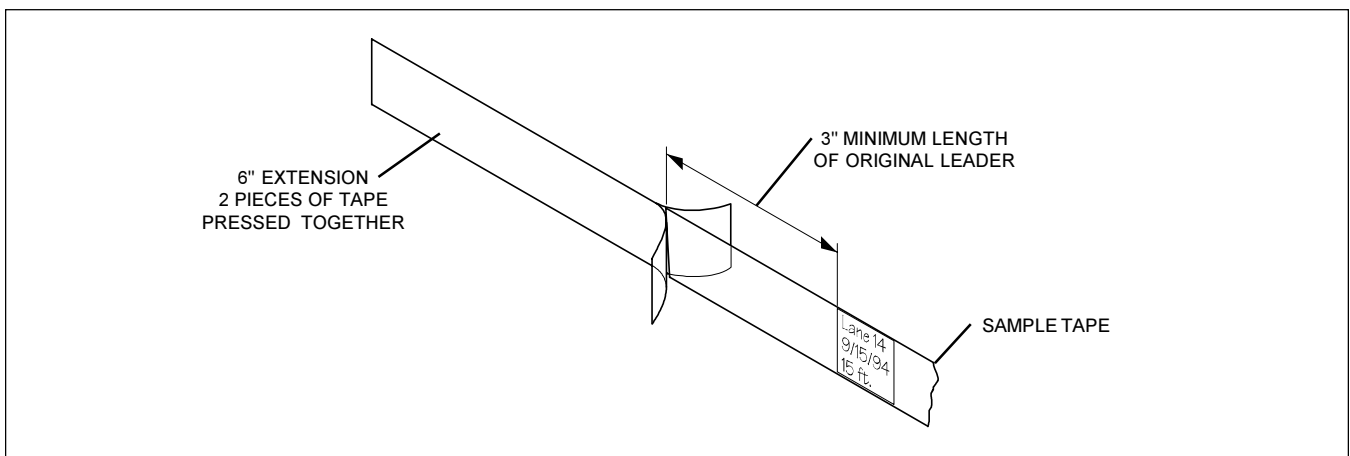

Figure 12 - Leader Extension
- b. Insert the sample tape, as shown in Figure 12, into the separated area of the new leader extension and carefully press the extension onto the original leader.